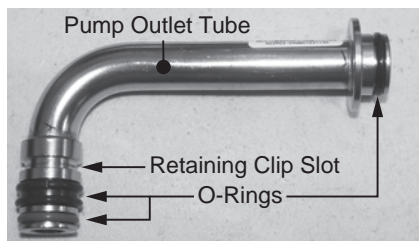

Figure 165 - Pump outlet tube O-rings
- Locate new pump outlet tube and three (3) O-rings provided in the kit. The pump outlet tube uses one (1) 14 x 2.5 O-ring on the inlet side, one (1) 14 x 7 double seal O-ring on the inlet side, and one (1) 15 x 2.5 O-ring on the outlet side. Install O-rings to tube. Install tube to water pump and secure with retaining clip. Install tube to water connection and secure with spring clip (size 25). Proceed to **Step 33** if not replacing water pump. See Figure 165.
The pump outlet tube uses one (1) 14 x 2.5 O-ring on the inlet side, one (1) 14 x 7 double seal O-ring on the inlet side, and one (1) 15 x 2.5 O-ring on the outlet side. See Figure 165.